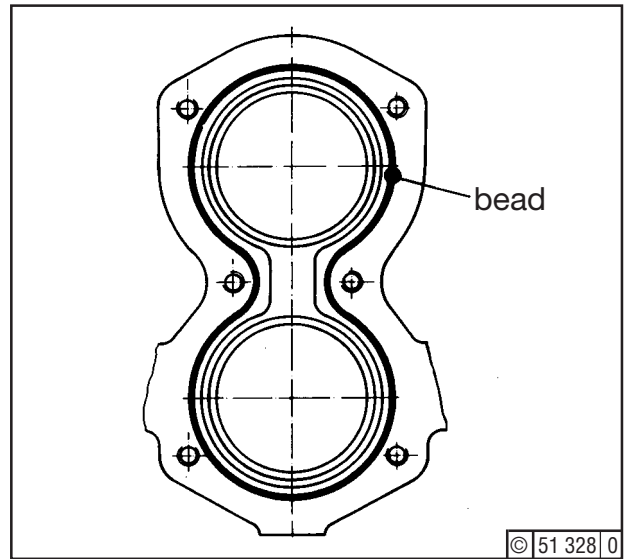

Fig. 4
Apply a continuous bead of Deutz DW 48 compound (bead not exceeding 3 mm in width for optimum sealing) to cover (8) - Fig. 4 -. Fit cover(25) and tighten by hex. bolts (24).